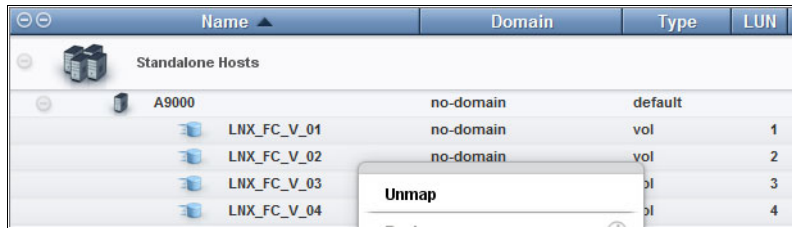

Figure 4-35 Unmap volumes
- In the XIV GUI select the volumes mapped to **A9000** and use the Unmap action to unmap the volumes from the host **A9000**, as shown in Figure 4-35.